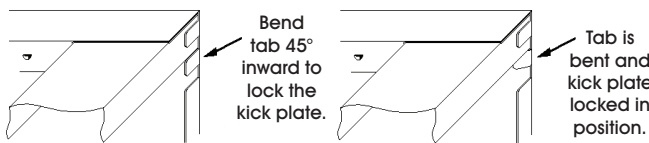

Figure 5
- Using a flat head screwdriver, bend the tab on the bottom of the side panel 45° inward to lock the kick plate in place. (See Figure 5)